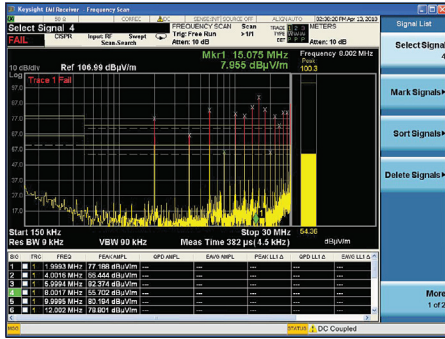

FIGURE 3. Scan and search identifies signals above the limit.
- Switch on the DUT to find signals above the limit lines. To identify the signals above the margin of either limit line, select scan and search to get the peak amplitude and frequency (Figure 3).